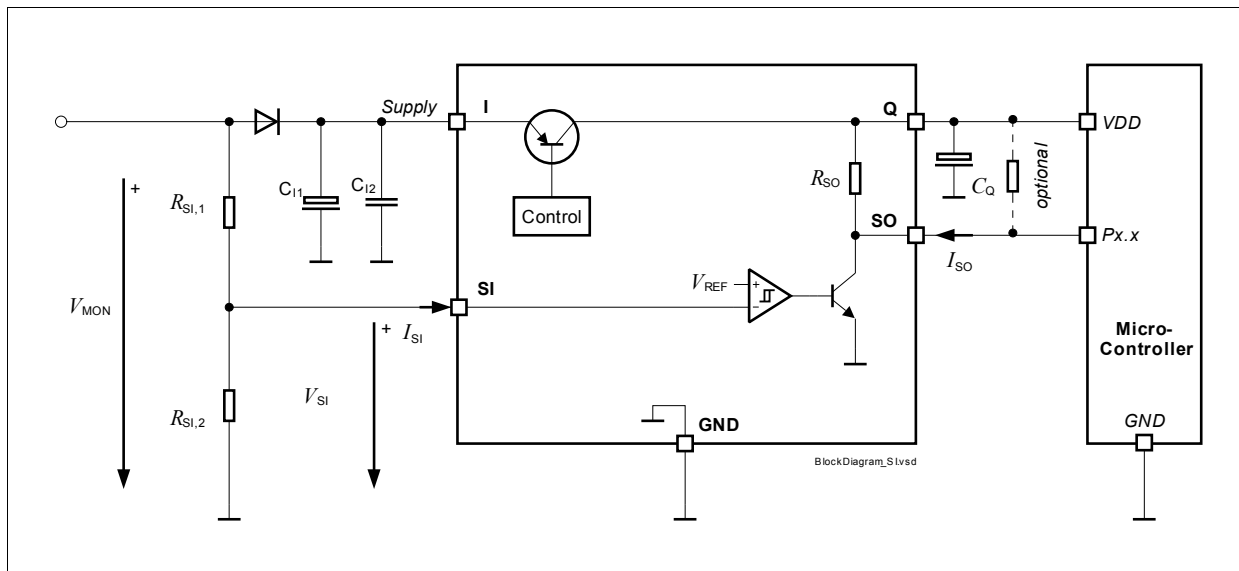

Figure 9 Diagram
- $R_{SI,1}$, $R_{SI,2}$: Resistors of the external voltage divider, see Figure 9.
$V_1 = 13.5\text{ V}$, $T_j = -40\text{ °C}$ to $+150\text{ °C}$, all voltages with respect to ground, direction of currents as shown in Figure 9 (unless otherwise specified)